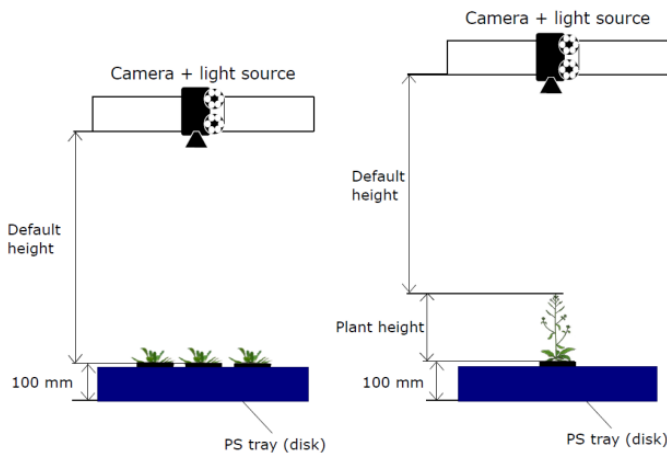

Fig. 42 Default camera height setting
- **Default** – position is set based on the optimal calibration height of each of the sensors (i.e. optimal working distance) (Fig. 42). Value in mm can be added to this height either positive or negative. This field is usually used to specify plant height - height of the plant above the PlantScreen tray lid. The offset textbox is used to readjust the default height settings to the top of the plant.